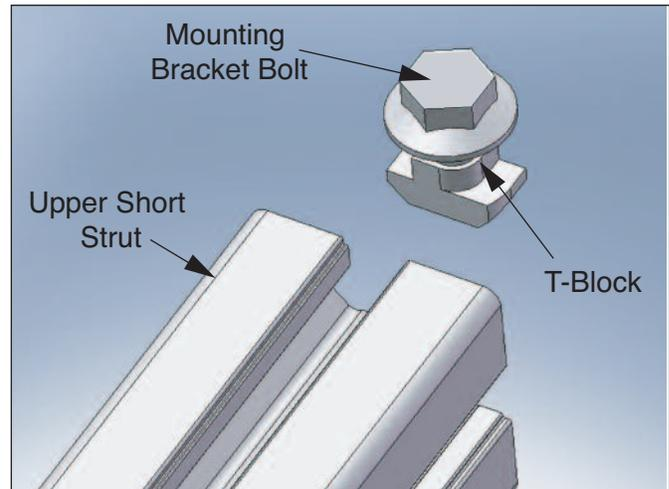

Fig. 3: Insertion of T-Block
5. With the Gussets facing down on one of the Short Struts, insert the two T-Blocks with mounting bolts into the channel that will face the boiler as shown in Figure 3. These will be used to secure the mounting bracket supplied with the boiler.